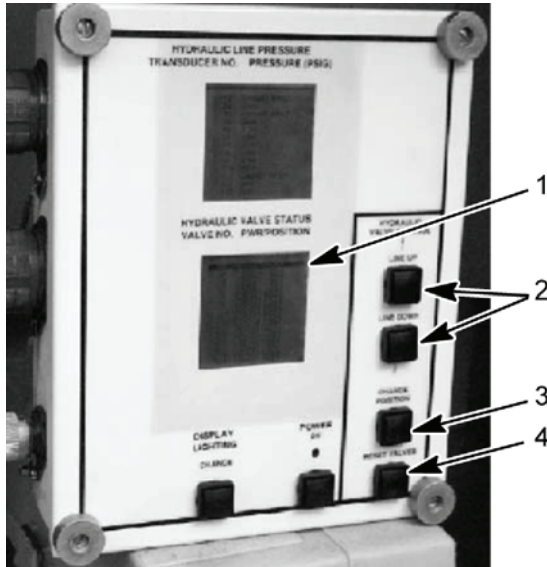

Figure 3. HDC Control Box
- Reset all HDC solenoid valves by selecting the RESET VALVES button (Figure 3, item 4) on the HDC control box.
- Using LINE UP or LINE DOWN button (Figure 3, item 2), select V14 on the HDC display (Figure 3, item 1). Close V14 on the HDC display (Figure 3, item 1) by selecting the CHANGE POSITION button (Figure 3, item 3) on the HDC control box.